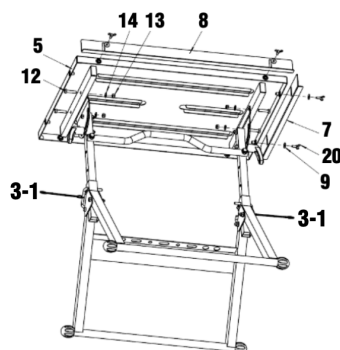

Fig. 3
9. Insert 4 M8 x 35 bolts (#12) through the angle brackets and table top support bar and secure in place using 4 washers and M8 nuts (Fig. 3).
10. Place 4 washers on the shaft of the 4 wing bolts (#2) (Fig. 3).
11. Attach the short guide rail (#7) and the long guide rail (#8) in the desired position on the table top using 4 wing bolts and washers (Fig. 3).